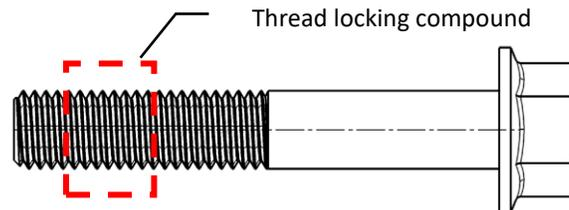

Figure 3
- N. Apply a high strength, permanent thread locking compound to the bolt thread as shown in Figure 3.